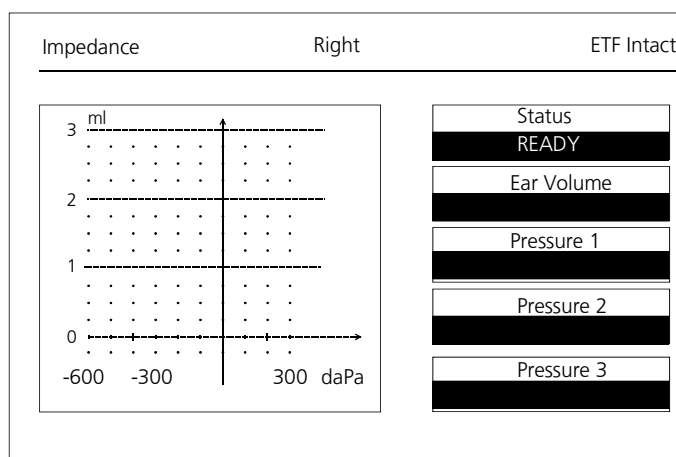

Figure 27
Highlight ETF Intact from the main menu and press the ENTER button ⑬ or press the **ETF**-key ⑯ to advance to the Eustachian Function Test screen (see figure 27). It is not necessary to run a tympanogram before running this test.